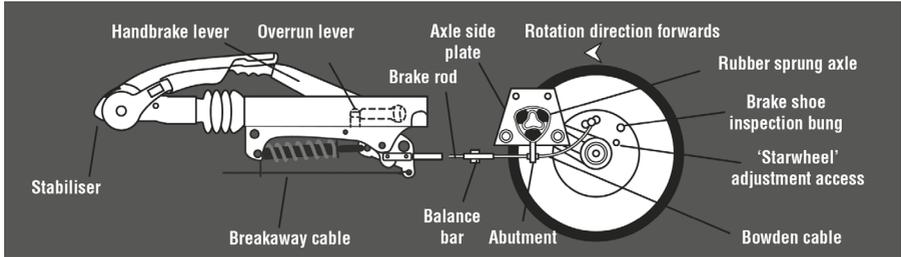
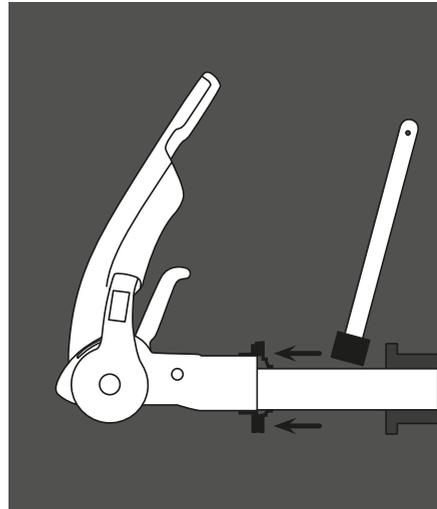

Figure 10
Figure 12 - Remedial action
1. Ensure the towing shaft with coupling head is pulled **FULLY FORWARD**. (Fig. 10).
2. Release the handbrake to the **FULLY OFF** position. If the handbrake will not go down the whole way because of the fairing or any other obstruction; then the fairing must be cut away and/or the obstruction removed to achieve this desired position. It will not be possible to set up the braking system properly when the handbrake is not in the **FULLY OFF** position. (Fig. 10).
4. Remove the inner plastic bung from the backplate to expose the "starwheel" adjuster access. (Figs. 10 & 11).
When the inner cable is pulled out it should extend between 5 and 8 mm. (Fig.12). (On tandem axles a double abutment (bracket) is fitted to the front axle **ONLY**).
10. Ensure the balance bar (compensator) is being pulled evenly (Figs.10 & 12). Excessive movement to this bar (double on tandem axles) would indicate possible incorrect adjustment (if appropriate, repeat step No. 7 - Fig. 12).
12. Remove the slack in the brake rod by adjusting the long ball nut, rear of the balance bar, ensuring the overrun lever makes contact with the end of the towing shaft. Note! Over adjustment to the long ball nut (Fig. 12/Item 2) could induce movement of the inner brake cable, reducing the effective clearance of the brake shoes. If the overrun lever will not make contact, it is possible the two lock nuts, forward of the spring cylinder, are incorrectly adjusted. Loosen the nuts and adjust brake rod as above (Figs. 10 & 12).
- Lubricate the drawshaft sleeve via the grease nipples. In addition, push the gaiter forward and grease (DIN 51 825 KTA 3K) the exposed part of the shaft (Fig 12).